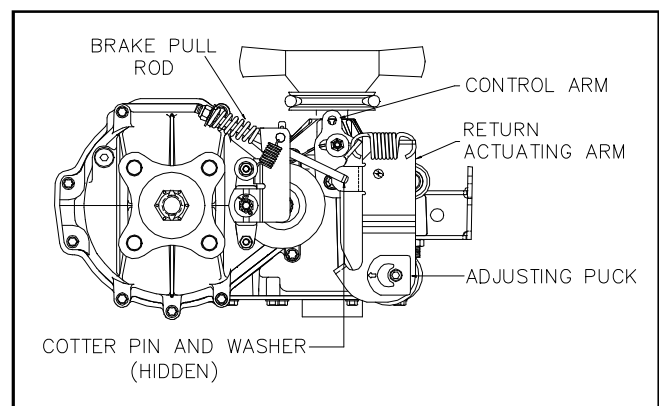

Figure 4. Return to Neutral, Hand Control
2. Remove the Original Equipment Manufacturer's (OEM's) control linkage at the control arm. Refer to Figure 4.
3. Remove the cotter pin and washer securing the brake pull rod to the return actuating arm. Remove the brake pull rod from the return actuating arm. Refer to Figure 4.
6. Stop the vehicle engine. Adjust the OEM linkage according to the OEM manual. Recheck according to step 4 and 5. Stop the vehicle engine. Replace the brake pull rod onto the return actuating arm. Install the washer and a new cotter pin securing the brake pull rod to the actuating arm. Refer to Figure 4.
7. Note the axle directional movement. Stop the vehicle's engine. Loosen the adjusting puck screw until the puck can be rotated. Rotate the adjusting puck the opposite direction of the wheel rotation on the control linkage side in 5 degree increments. Tighten the adjusting puck screw. Refer to Table 5. Required Torque Values, Page 13. Recheck according to step 4 and 5. Stop the vehicle engine. Adjust the OEM linkage according to the OEM manual. Recheck according to Step 4 and 5. Stop the vehicle engine. Replace the brake pull rod onto the return actuating arm. Install the washer and a new cotter pin securing the brake pull rod to the actuating arm. Refer to Figure 4.